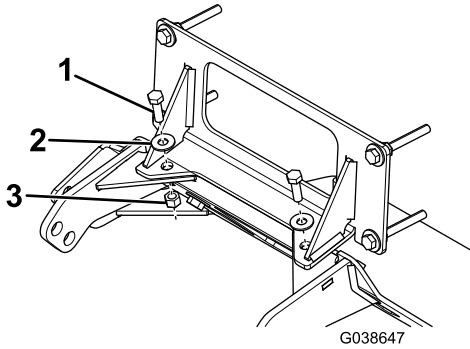

Figure 4
- 9. Secure the top plate to the plow skid plate using 2 short bolts (5/16 inch) and 2 washers (5/16 inch), and leave the fasteners finger-tight (Figure 4).